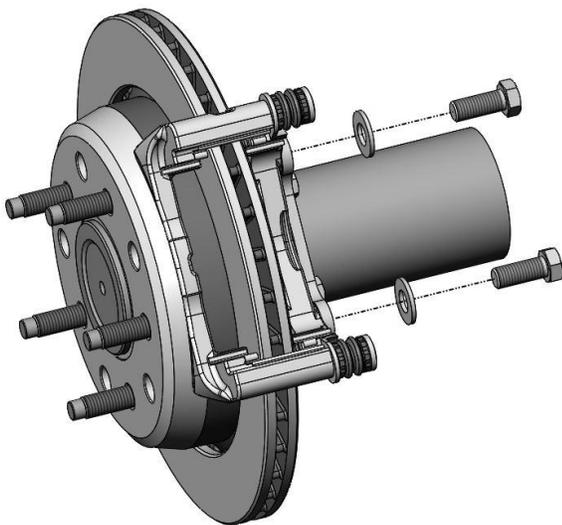

Figure 5a – Caliper Anchor Installation
9. Remove the Caliper Anchor bracket from the caliper by removing the M8-1.25 x 21mm Caliper Mounting Bolts from the Anchor followed by removing the brake pads. Install the caliper anchor over the rotor and insert the Caliper Mount Spacer Bracket in between the Anchor and the Secondary caliper bracket. Using the provided M12 Flat Washers and M12-1.75 x 35mm Socket Head Cap Screws, and torque the bolts to 80 lb/ft. Refer to Figure 5a and 5b below for reference on installing the caliper anchor.